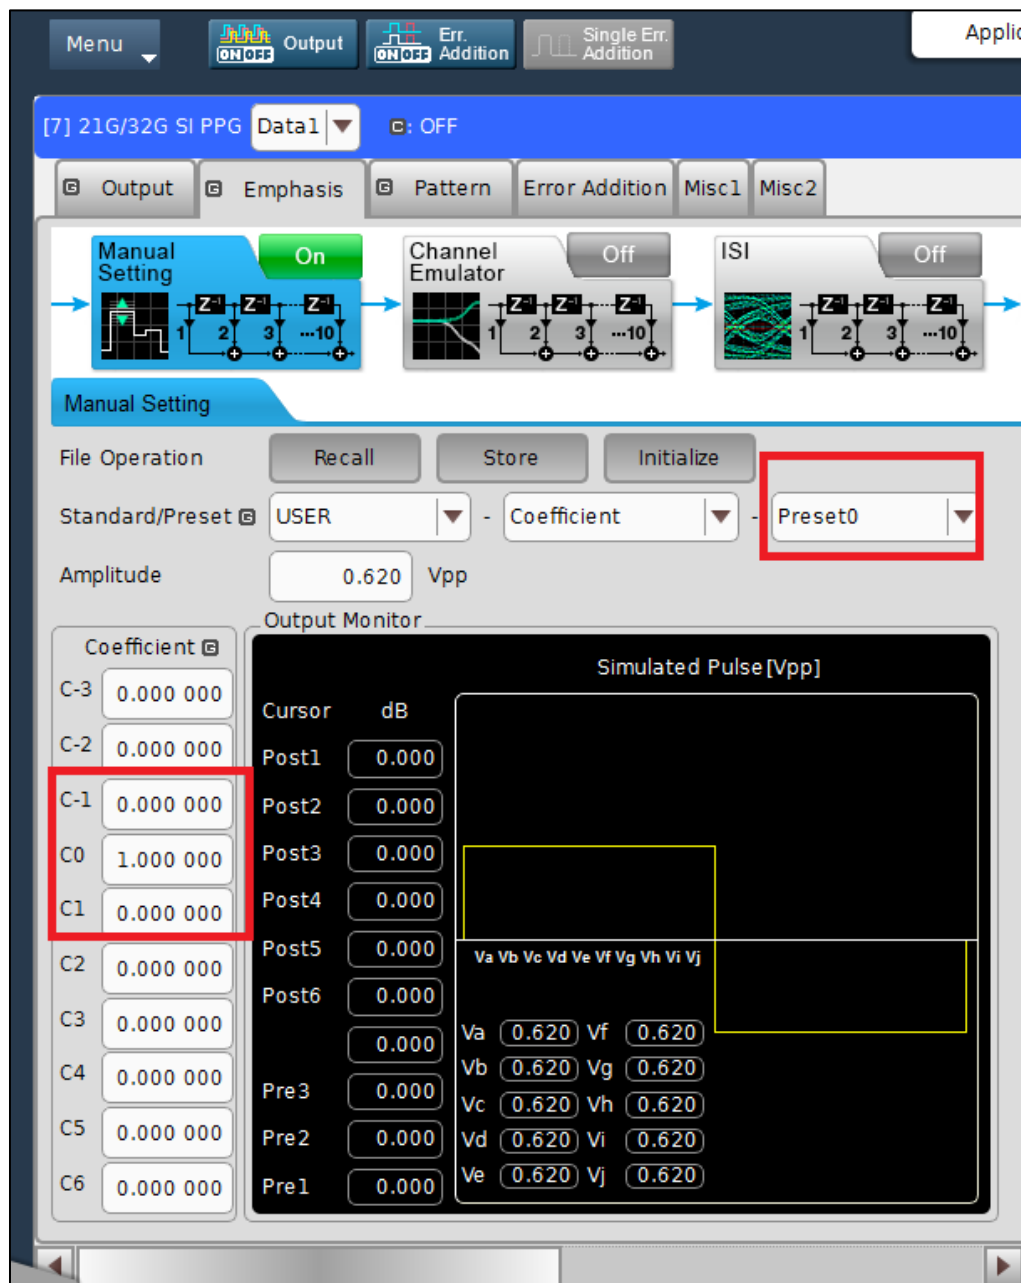

FIGURE 52. 4TAP EMPHASIS CH1 INTERFACE
2. In 4Tap Emphasis Ch1 Menu, create 15 Presets with coefficients which match the Table in the Thunderbolt Interconnect Specification. See Figure 52 below.